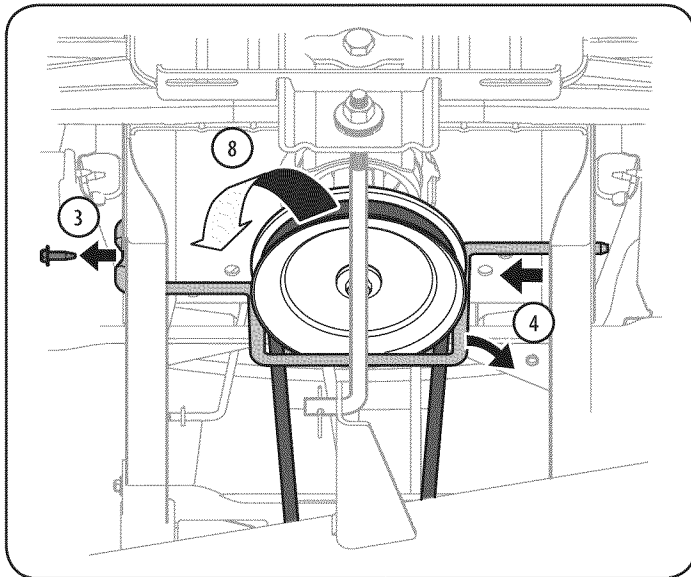

Figure 21
- Remove the hex screw securing the engine pulley keeper rod to the frame. See Figure 21.
- Slide the rod to the right to remove it. See Figure 21.